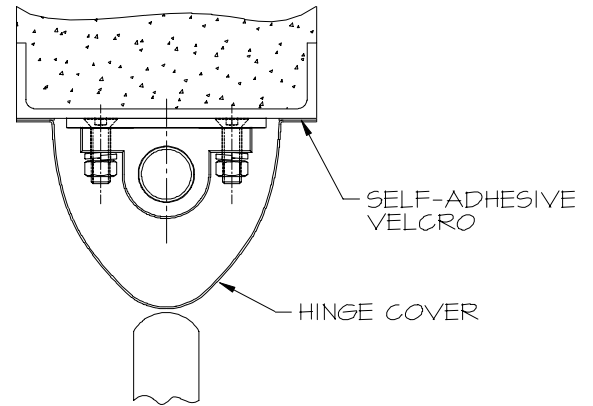

FIG. 10
- c. **Press** one side of hinge cover onto jamb surface (Figure 10).